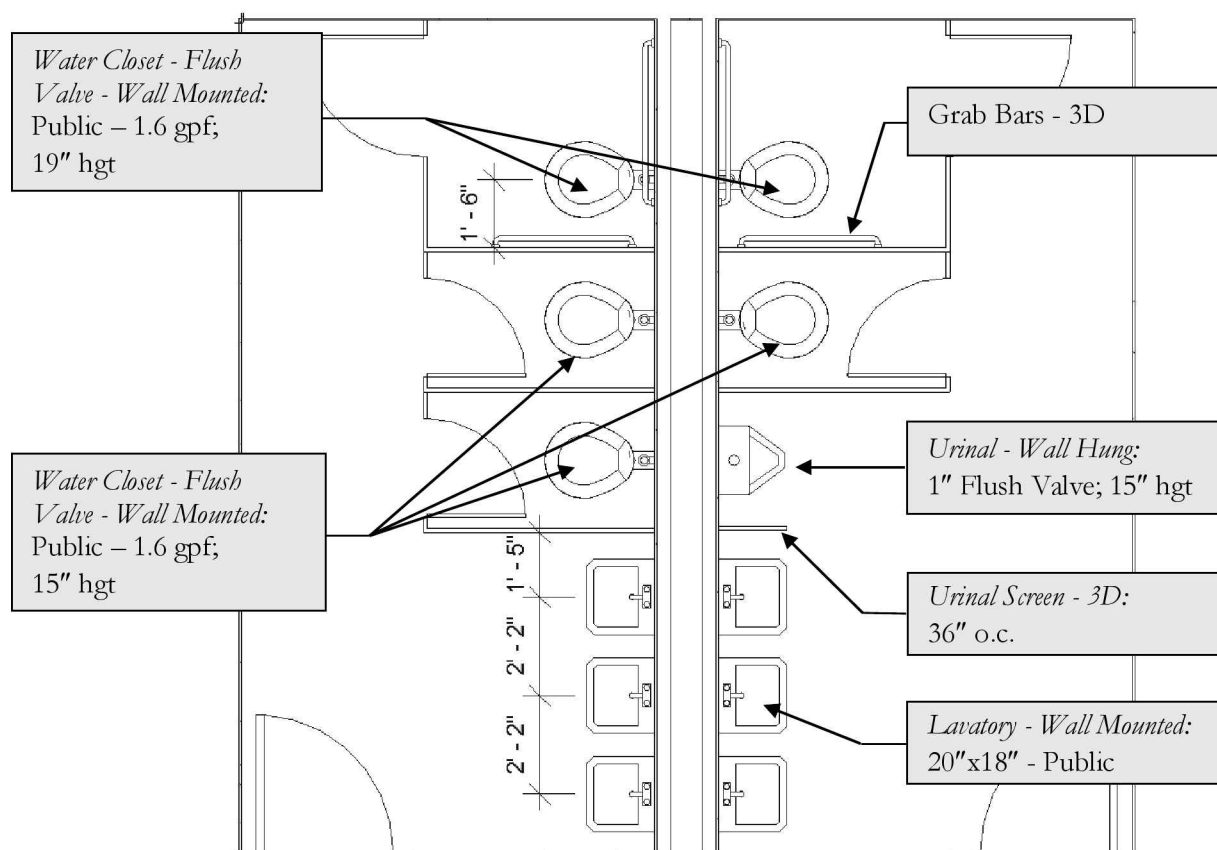

FIGURE 11-1.8 Toilet room layout
27. Add the additional components as shown in **Figure 11-1.8**.